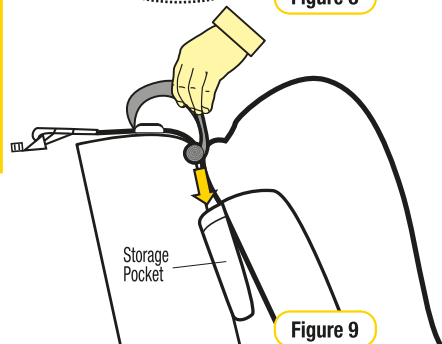

Figure 9
**Step 7:** Store any excess webbing, from the top tether strap, in the storage pocket provided on the restraint (refer to Figure 9).